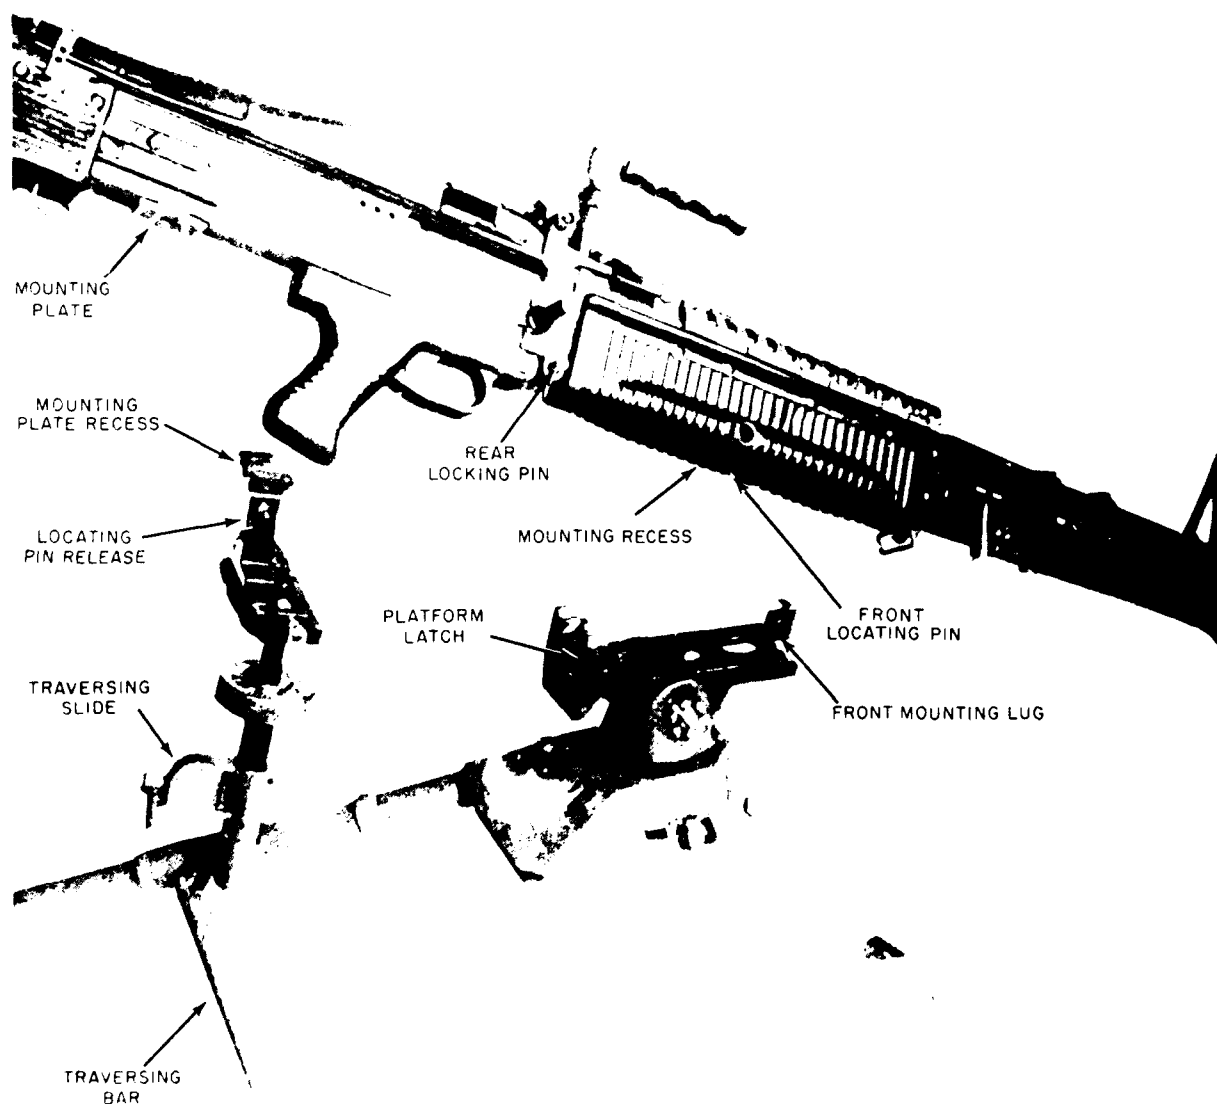

Figure 5-13.—Gun in relation to the tripod.
To mount the gun, (1) lock the pintle and platform into the pintle bushing, as shown in figure 5-13; (2) position the front locating pin (in